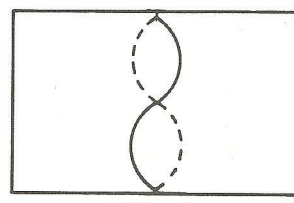

Fig. 2
2. Shift the convergence as shown in Fig. 2 with the respective keys of MODE, FUNCTION, OPERATE, and CURSOR/DATA of the control unit of the sub control panel.